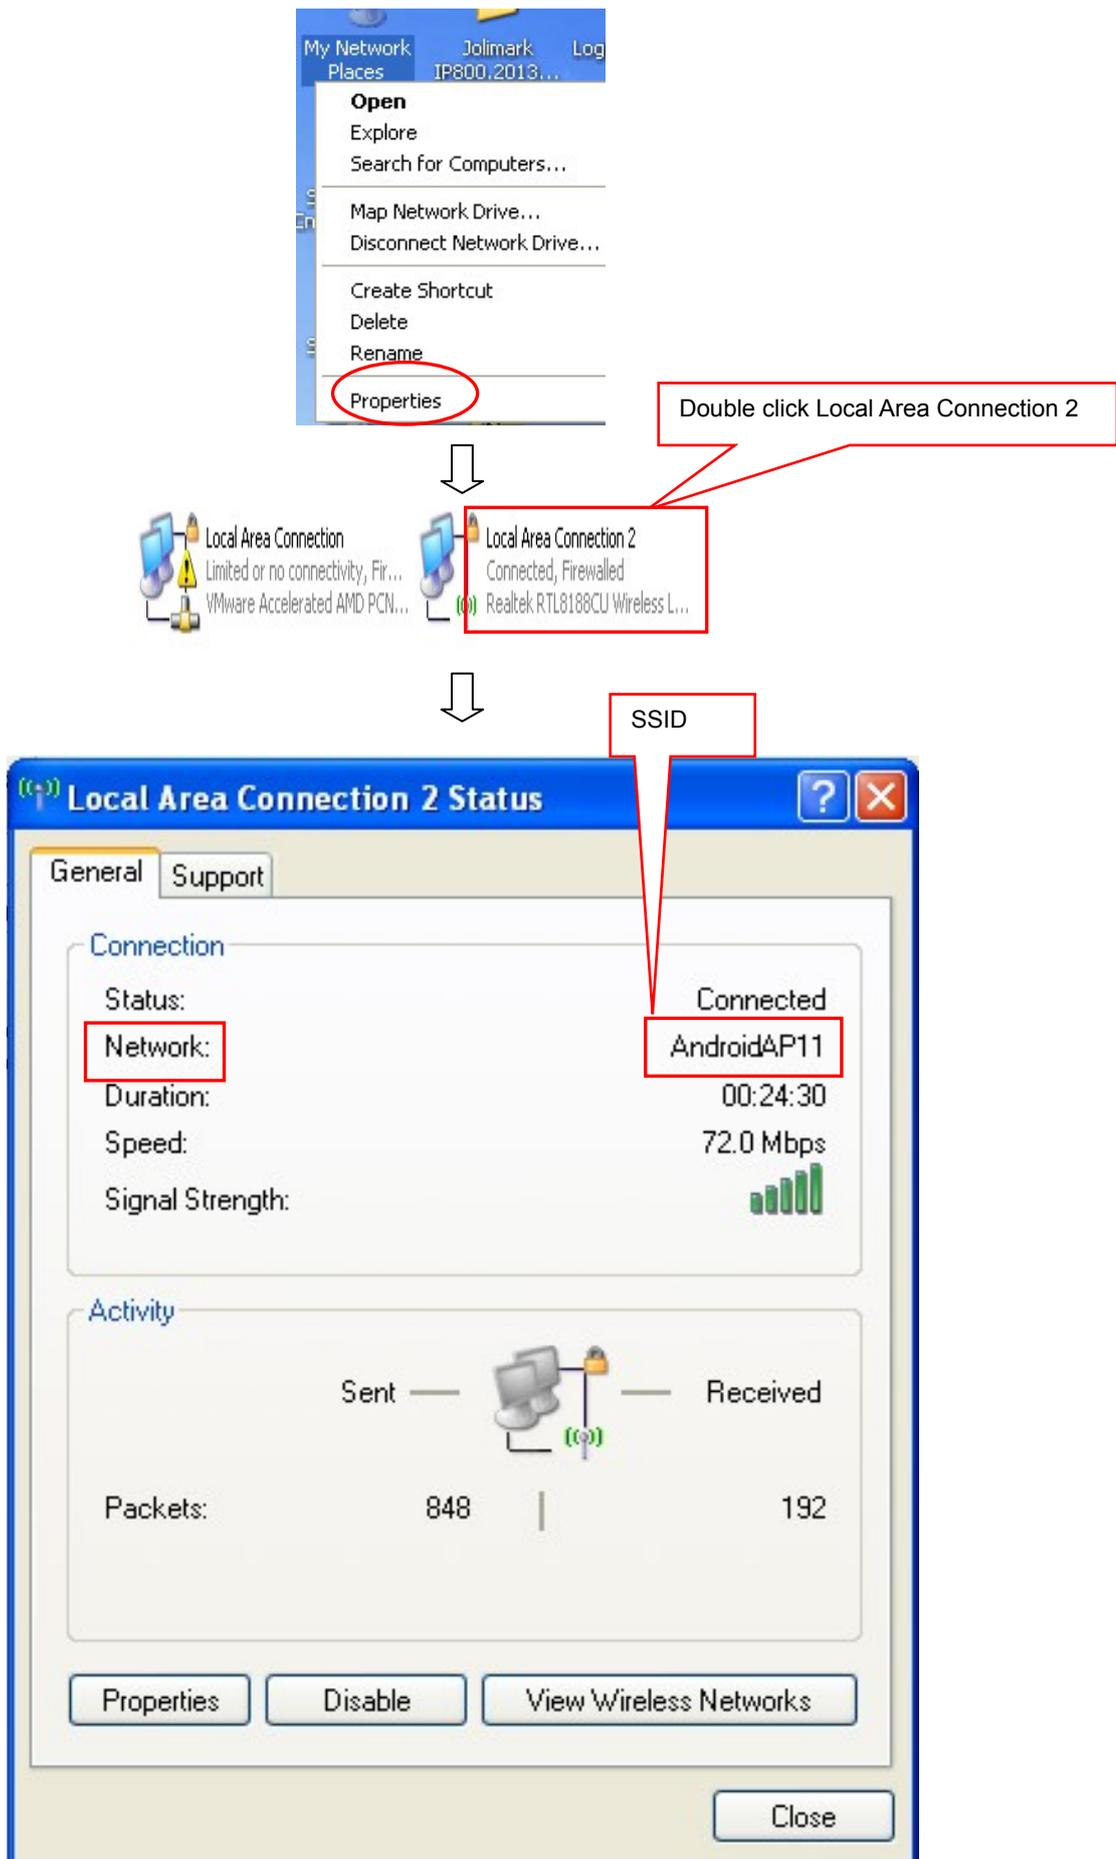

Figure 5
Right click "My Network Places", and then click "Properties" to find the "Local Area Connection 2" you are using. Double click it and the window of "Local Area Connection 2 Status" pops up. You can find the corresponding SSID network name in it. (As shown in figure 5)
(1) Click "Properties" in the window of "Local Area Connection 2 Status". (Get reference in figure 5)
(1) Click “Support” in the window of “Local Area Connection 2 Status”. (Get reference in figure 5)